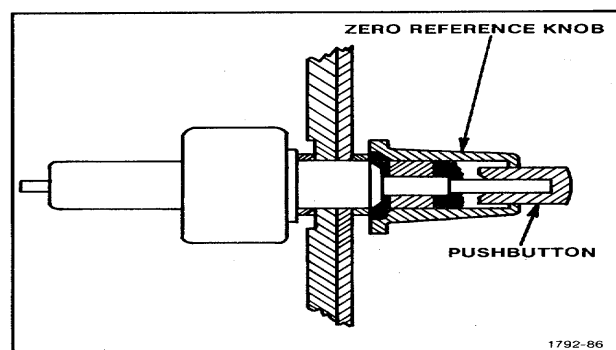

Figure 5-33. Installation of knob on ZERO REFERENCE control.
2. Assemble the knob and pushbutton on the control shafts as shown in Fig. 5-33.